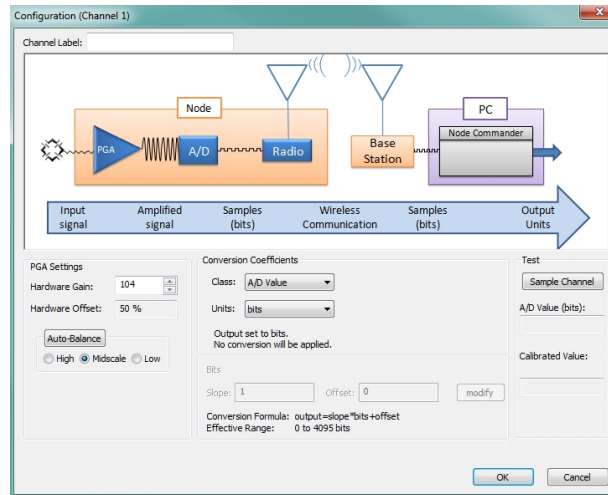

Figure 36 - Channel Settings
3. Use the following settings (Figure 36 - Channel Settings):